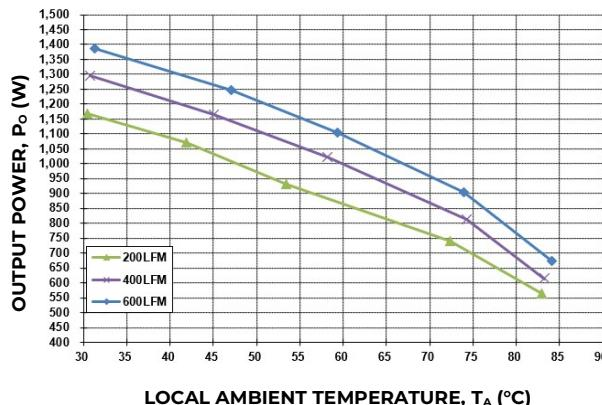

Figure 17. Output Power Derating for the Base Plate QBDS128A0B1-H; Airflow Direction for Vout to Vin(Worst) orientation; Vin = 50V.
Increased airflow over the module enhances the heat transfer via convection. The thermal derating of figure 17–22 shows the maximum output current that can be delivered by each module in the indicated orientation without exceeding the maximum TH1 and TH2 temperature versus local ambient temperature (TA) for several air flow conditions.